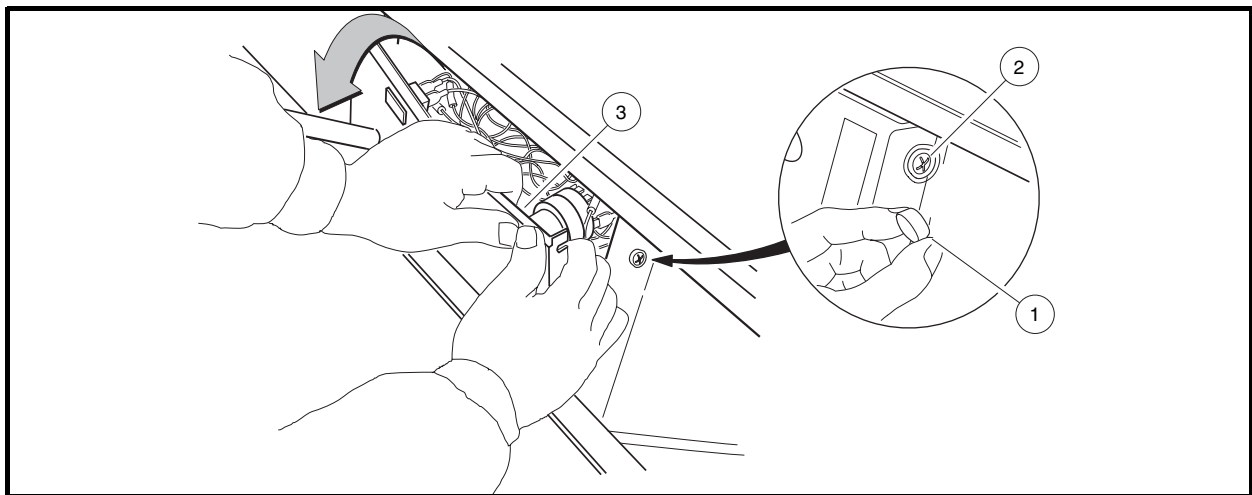

Figure 23-3 Dash Removal – 850
3. Remove the center dash panel (**Figure 23-3, Page 23-3**).
- 3.1. Remove the plastic cap (1) covering the mounting screw (2) on each side of the center dash panel (3) (**Figure 23-3, Page 23-3**).